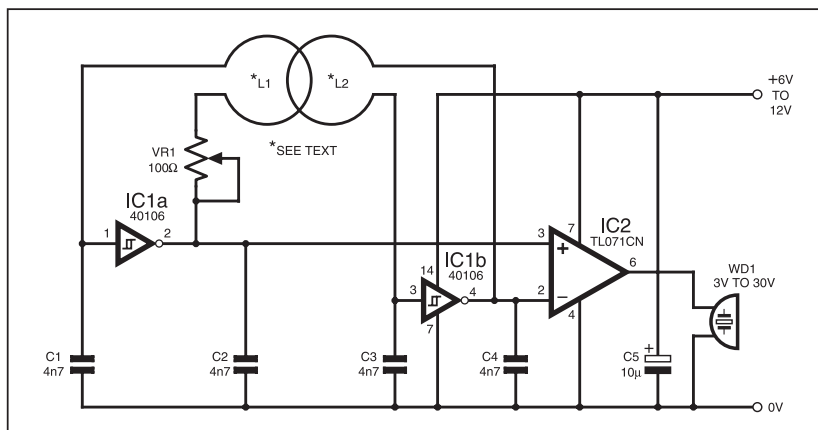

Fig.1. Circuit diagram for the Beat Balance Metal Detector.
**T**HE circuit diagram shown in Fig.1 may well represent an entirely new concept, being a hybrid between beat frequency operation (b.f.o.) and induction balance (i.b.) metal detectors. Its performance also lies between the two. If it were a b.f.o. design, its performance would be unusually good. If it were i.b., its performance would be modest.